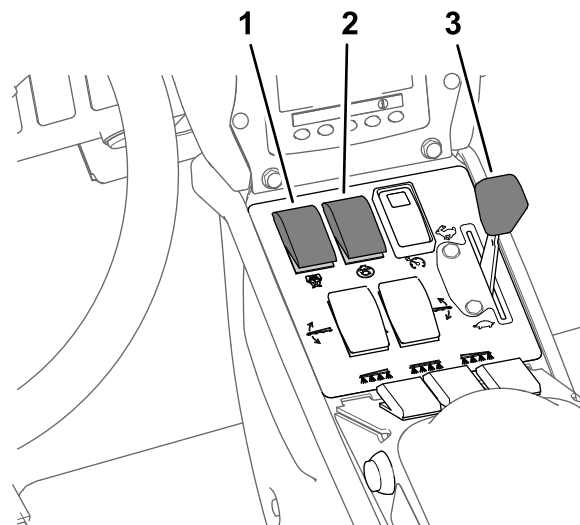

Figure 43
7. Set the pump switch to the ON position (Figure 43).
8. Move the throttle to the FAST position (Figure 43) and allow the engine to run for 10 minutes.
6. Set the agitation switch to the OFF position and set the throttle to the FAST position (Figure 43).